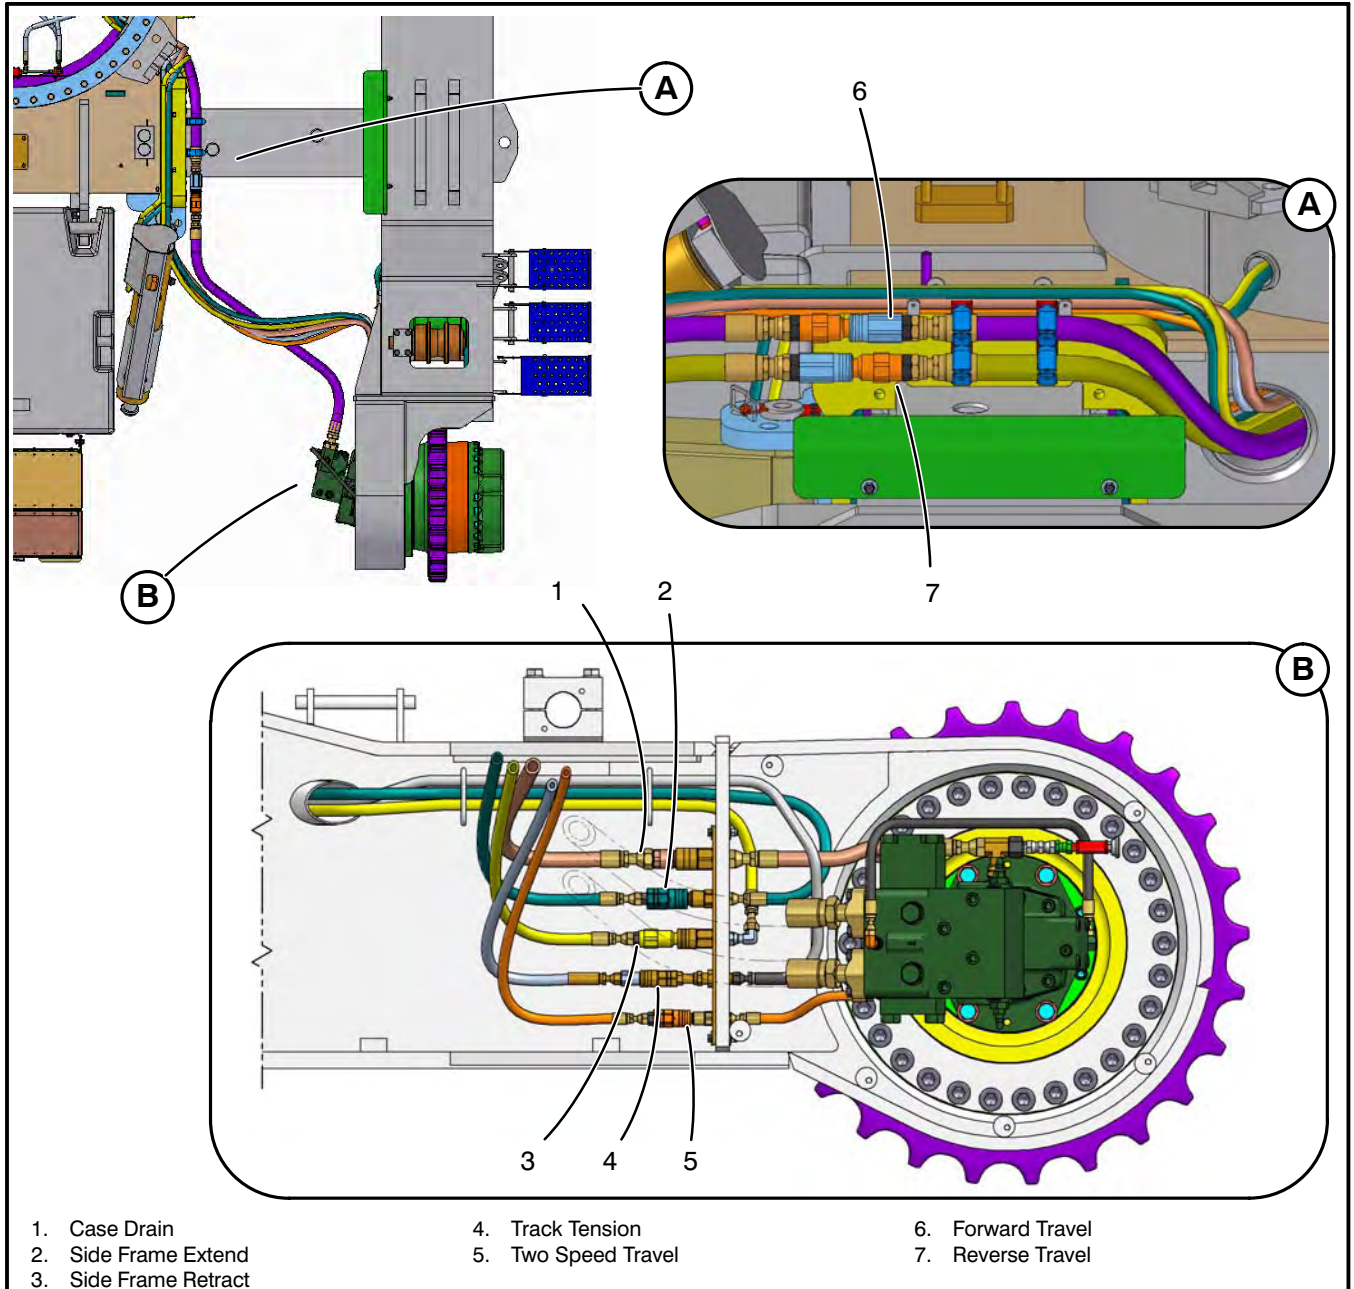

Figure 1–133
the following page and within on jacks, one track working area shown on the RCL Display. Refer to Figure 1–130 and Figure 1–132.
14. Loosen the jam nuts on the 1” (2.54cm) diameter bolts. Refer to Figure 1–131. Tighten the bolts against the axle beam and tighten the jam nuts to secure side frame to axle beam. Install retaining pins and cotter pins into the 2.5 in (6.35cm) diameter pins. Repeat for the other axle beam. Refer to Figure 1–131.
16. Connect the hydraulic hoses for the travel motor lines, side frame extend/retract lines, 2-speed travel line, drain line, and the track tension line (four places). Refer to Figure 1–133. Do this on both side frames.
5. Maneuver transport vehicle to the left or right side of the lower. Position the transport vehicle so the side frame is within the radius listed below and within on jacks, one track working area shown on the RCL Display during removal of the first side frame. Refer to Figure 1–130 and Figure 1–132.